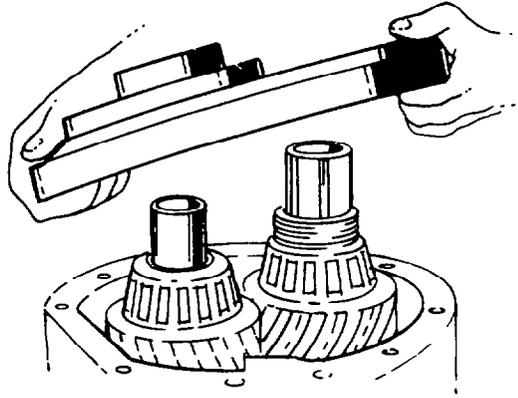

Fig. 219 — Removing Drive Housing End Plate
- e. Remove the bolts and nuts retaining the drive housing end-plate to the transfer case and remove the end-plate and the drive shaft outer bearing cone as an assembly (see fig. 219).